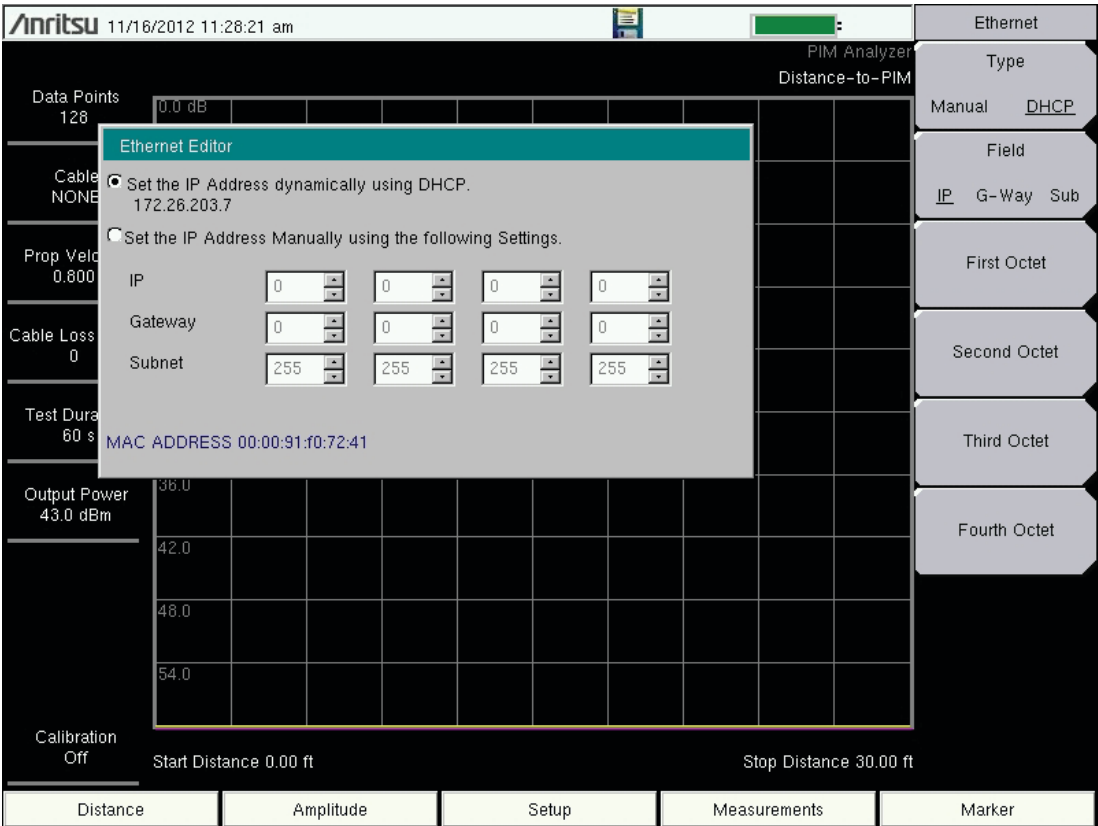

Figure F-1. IP Address Assigned Using DHCP
To display the IP address with the instrument on, press the **Shift** key, then the **System** (8) key, then the **System Options** submenu key and the **Ethernet Config** submenu key. The IP address will be displayed as shown in Figure F-1. The image on the display panel of your PIM Master may differ from the image shown here.